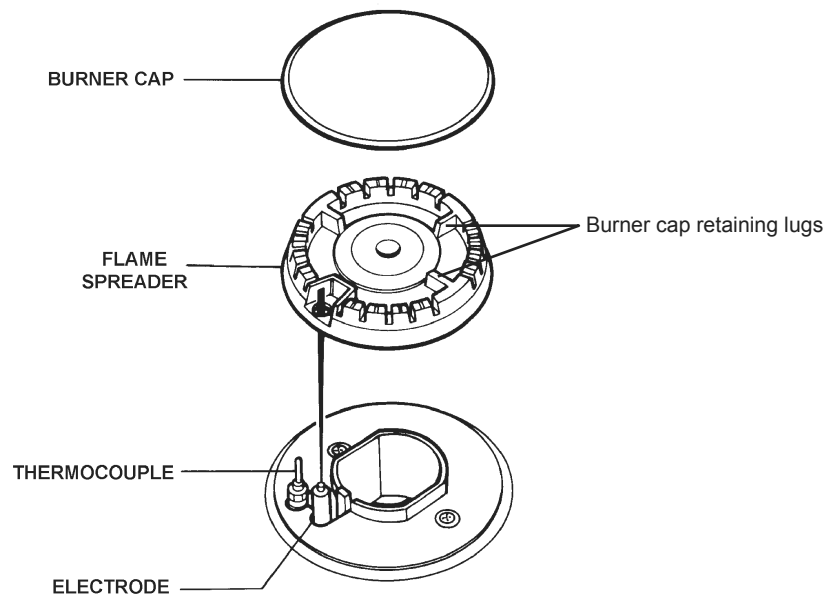

Fig. 9.7
5. Replace module hotplate. Reassemble in reverse order and reconnect the mains wire (See **Electrical Connections**). Ensure burner heads and burner caps are correctly located (See **Fig. 9.7** and **Fig. 9.8**), and electrodes are not damaged.